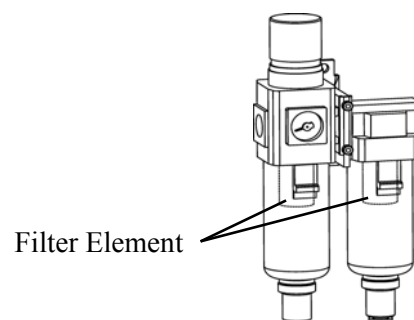

Figure-6
7. Regulator/Mist Separator Cleaning: Figure-6